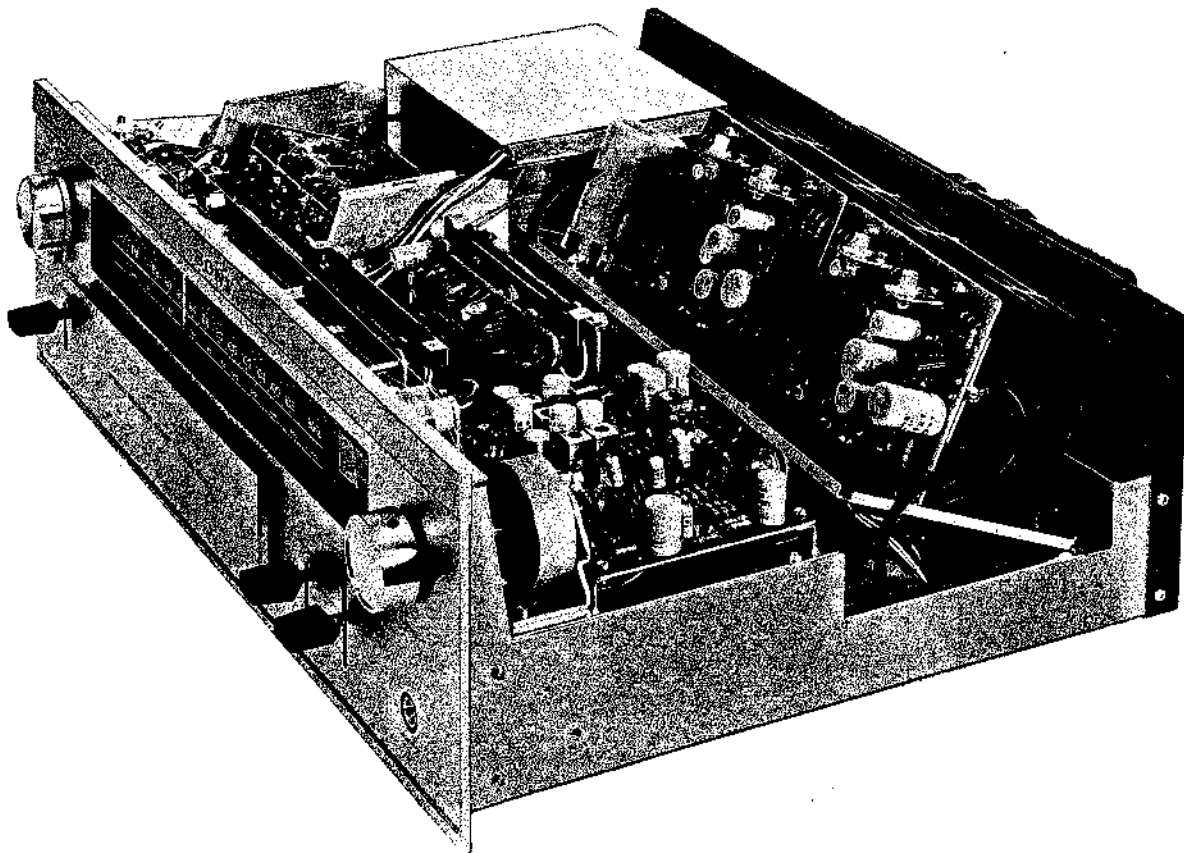

Fig. 2-8
- (c) This block can now be tilted and released from the chassis. See Fig. 2-8.